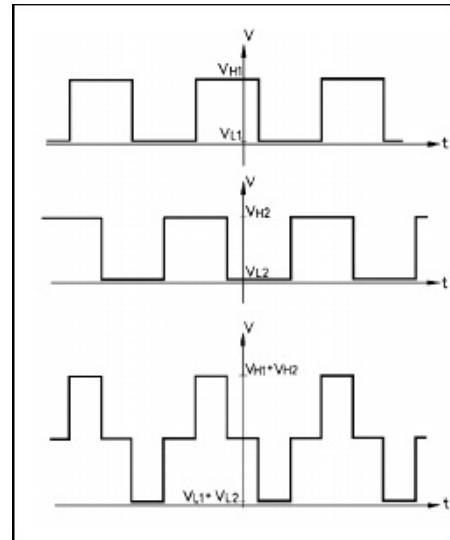

Figure 8-4: Encoder Signals
- Using an oscilloscope, check the signals ( $P_0$  and  $P_1$ ) received from the encoder's two phototransistors. Figure 8-4 shows the wave diagrams which emanate from the two channels of the encoder ( $P_0$  and  $P_1$ ) with respect to the time axis. The top two signals should be clean square waves: